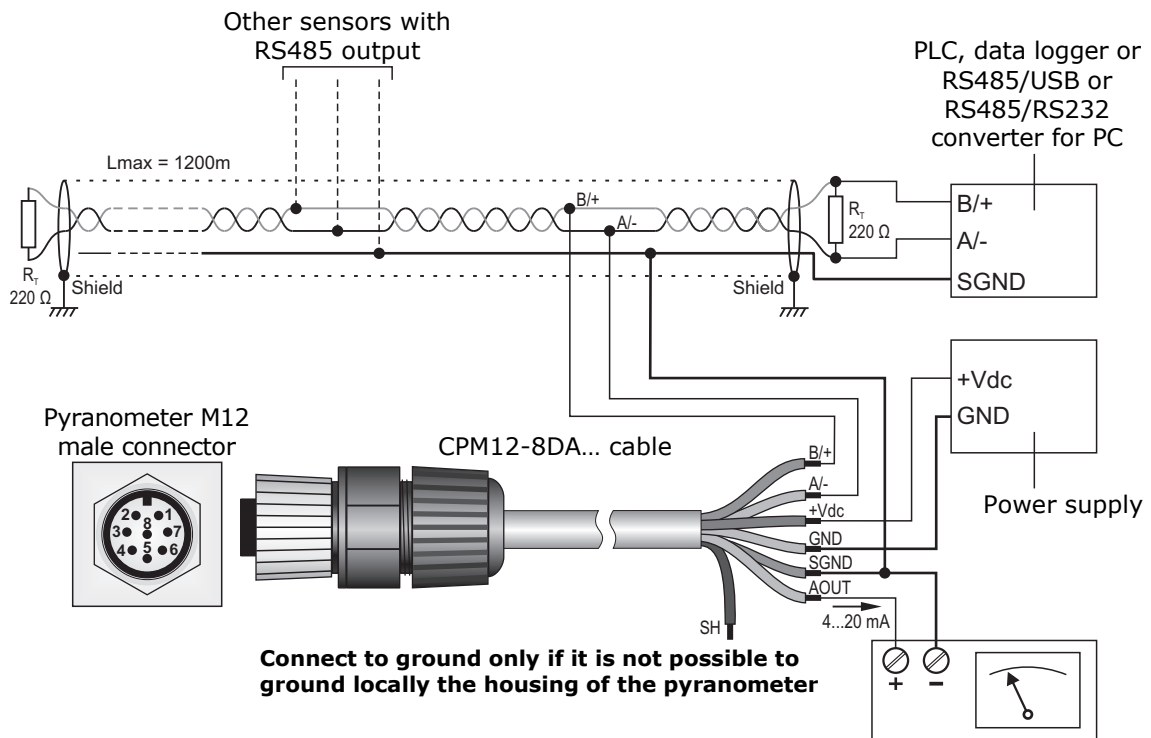

Fig. 4.6: LPPYRA10ACS[4] connections
- One **4...20 mA** output, requiring **10...30 Vdc** external power supply. It is to be connected to a power supply and an instrument with 4...20 mA input as shown in fig. 4.6. The load resistance of the instrument reading the signal must be $\leq 500 \Omega$.
- One **RS485 Modbus-RTU** output, requiring **5...30 Vdc** external power supply. It is to be connected to a power supply and to a PLC, a data logger or a RS485/USB or RS485/RS232 converter for PC as shown in fig. 4.6. The RS485 output is not isolated.